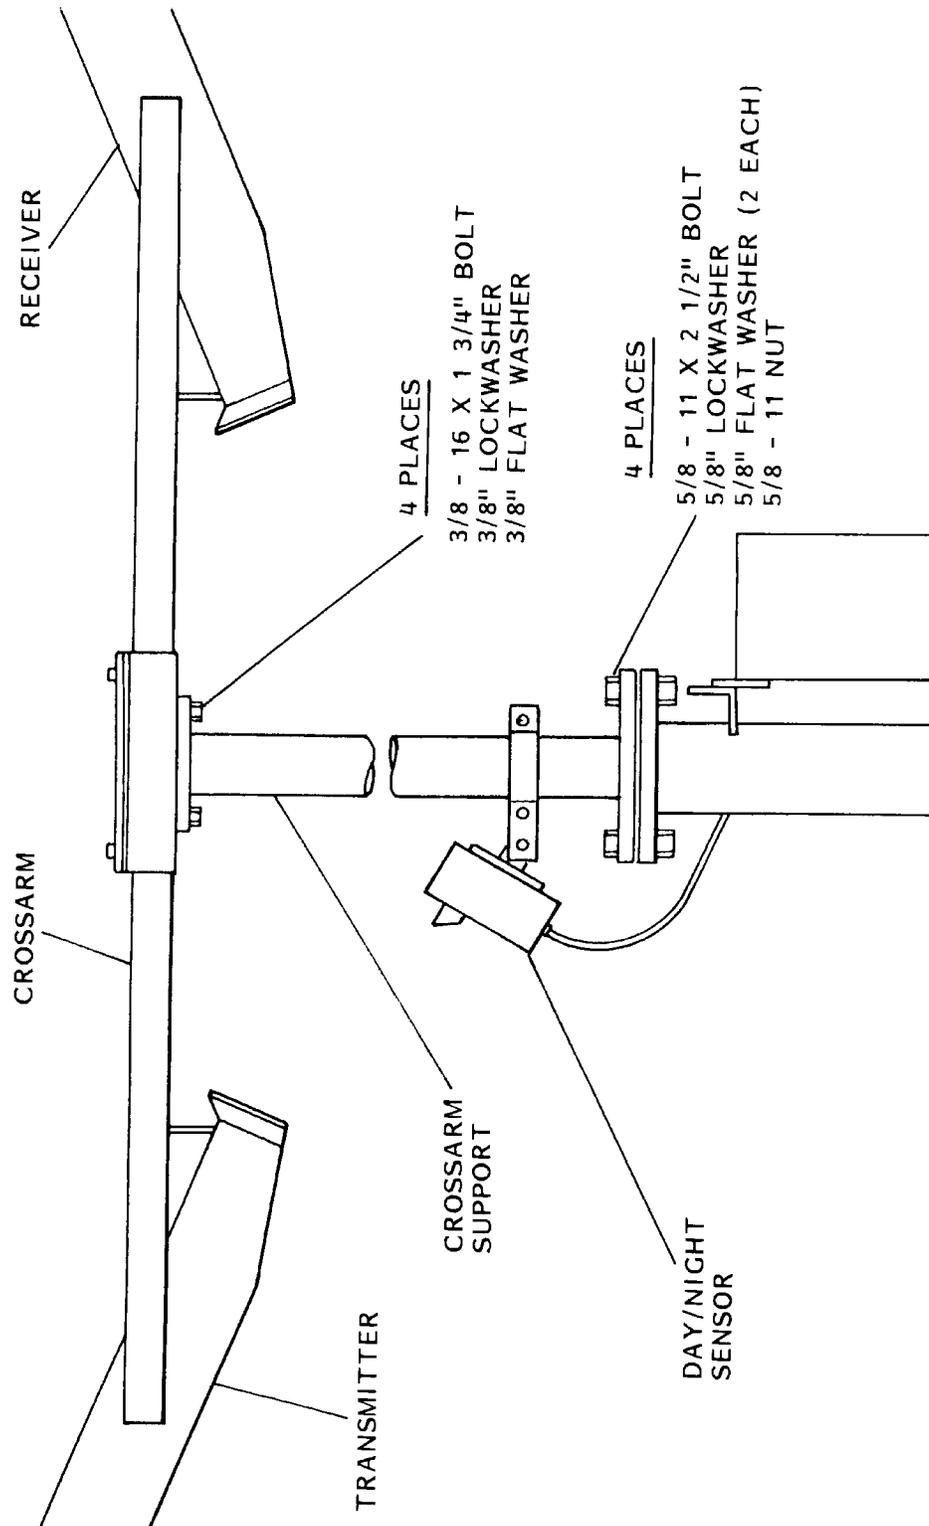

Figure 6.2.2. Crossarm/Support and Day/Night Sensor Installation
6.2.2.4 **Crossarm Support.** The crossarm support is mounted on top of the enclosure support such that the calibration plate mounts face to the right of the enclosure. The crossarm support is secured to the enclosure support using four e - 11 by 2-1/2-inch HHCS's as shown on figure 6.2.2.
6.2.2.5 **Crossarm.** The crossarm is mounted to the top of the crossarm support such that the transmitter and receiver hoods are to the right of the electronics enclosure (on the same side of the support pole as the calibration plate mounts). The crossarm comes prewired for the head assemblies. As such, the wires from the crossarm need to be routed through the interior of the support pole prior to securing the crossarm to the support pole. The crossarm is secured to the crossarm support pole using four 3/8 - 16 by 1-3/4-inch HHCS's as shown on figure 6.2.2.